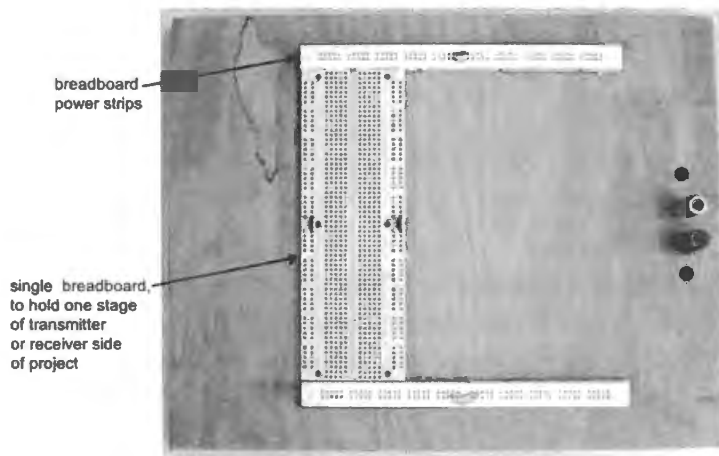

Figure 13N.2 Power bus strips help to minimize power supply impedance, against parasitic oscillations.
- do all you can to keep power supply leads *short*. (In our course, we provide power through bus connectors pulled off old breadboard strips; the low inductance and substantial capacitance of power buses helps: see Fig. 13N.2.)